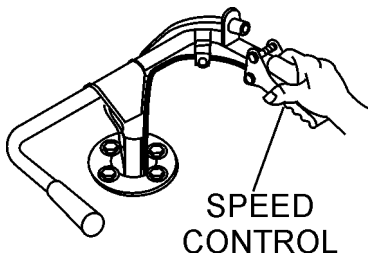

Figure 14. Speed Control Lever
3. Check the speed control lever (Figure 14) located on the right side of the handle bar. The speed control should work freely when squeezed by hand, and return to the closed position when released.
5. Slowly squeeze the speed control lever slightly (Figure 14), for a short period of time to test the brake holding capacity. If the buggy moves forward, adjust the brakes as outlined in the maintenance section of this manual.
2. Squeeze the speed control lever (Figure 14) slightly until the buggy begins to move in a forward direction. Initially, let the buggy travel at about 3 MPH.